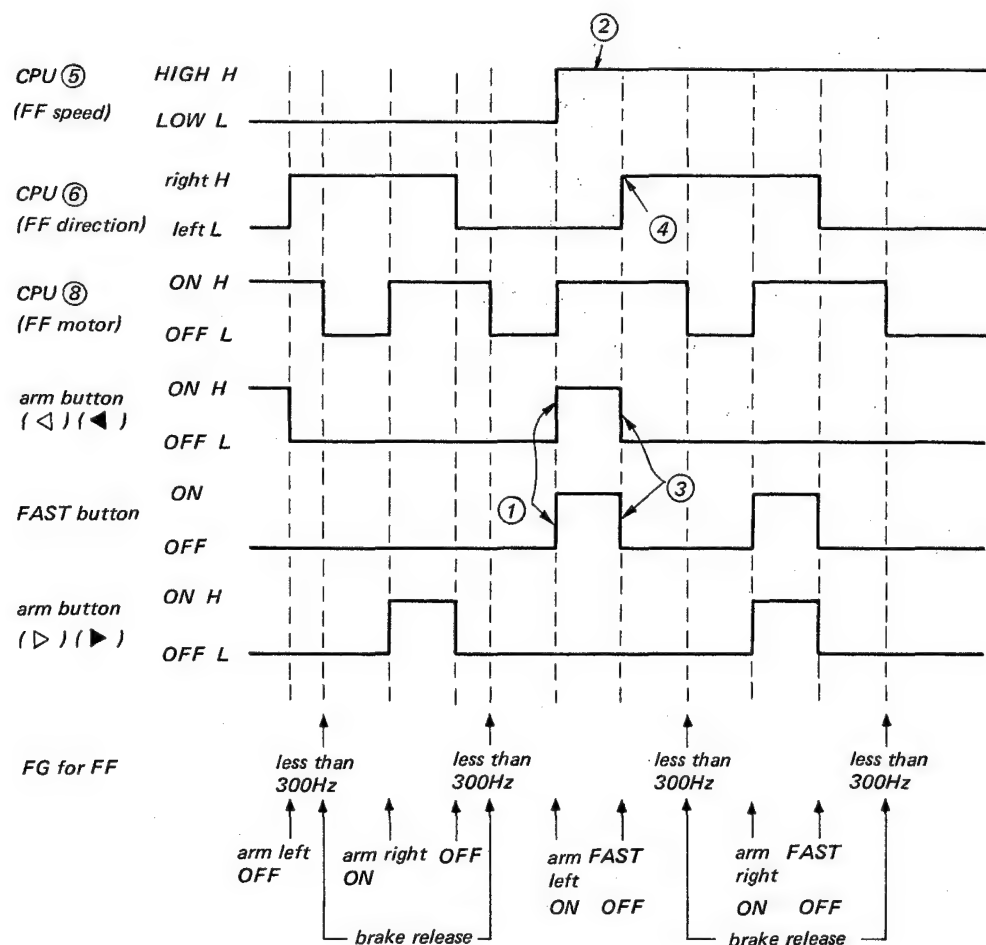

Fig. 23
### 3-1. Explanation of ①②③④ on the Brake Timing Chart on Fig. 23.